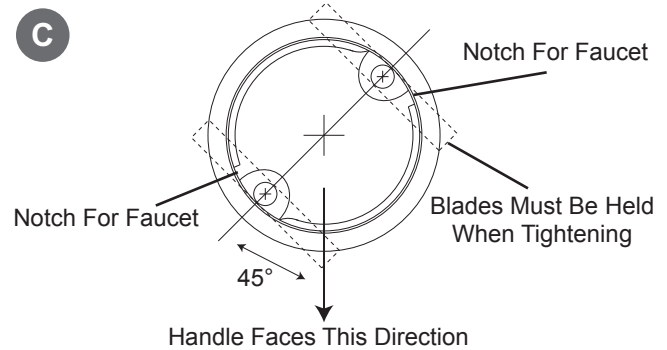

Figure 5
- C. Look down through the base for this step. Before tightening the bolts, determine the correct rotation of the base. The final position of the handle will be 45 degrees off from the bolt heads. Use Figure 5 to help determine the best position for your installation. Through the hole in the base, hold the toggle in position while tightening the bolt. The spring loaded toggle will contact the bottom of the counter top and hold in position. Do not fully tighten. Repeat for second toggle bolt.